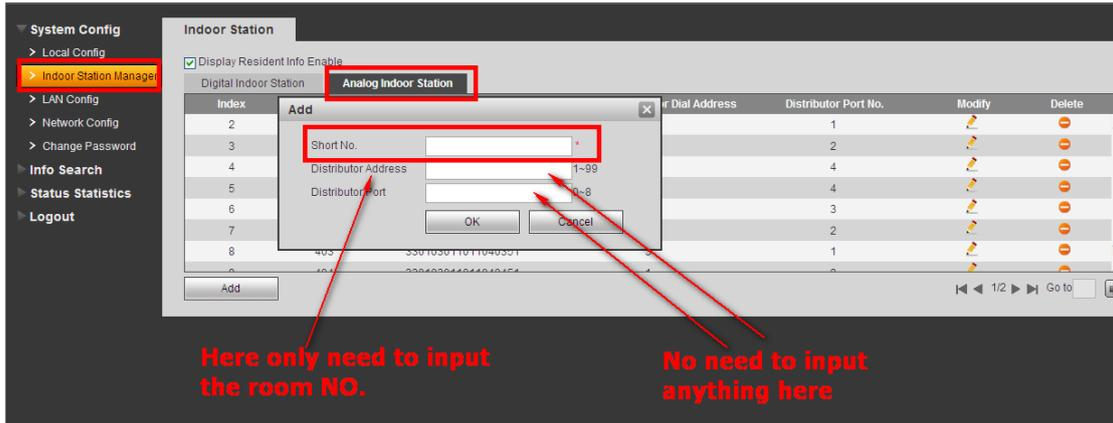

Figure 2-8
**Step2** Check Indoor Station Manager> Analog Indoor Station. Add the Room No. in the web interface. See Figure 2-8.